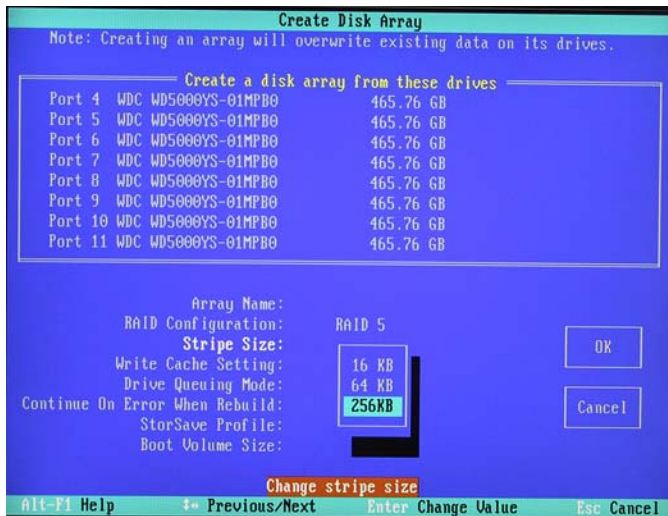

Figure 6-11
- 11) Use the up/down arrow keys to highlight the **Stripe Size** item, and then press the <Enter> key to access an associated pop-up dialog (Figure 6-11).